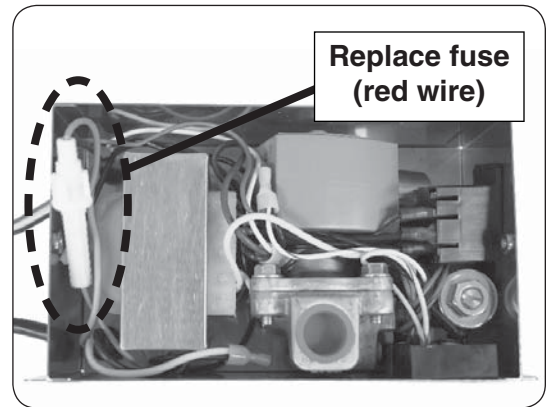

Fig. 49-2 Replace fuse
5. "Push in and twist" the fuse holder (red wire), exposing the fuse (see Fig. 49-2).